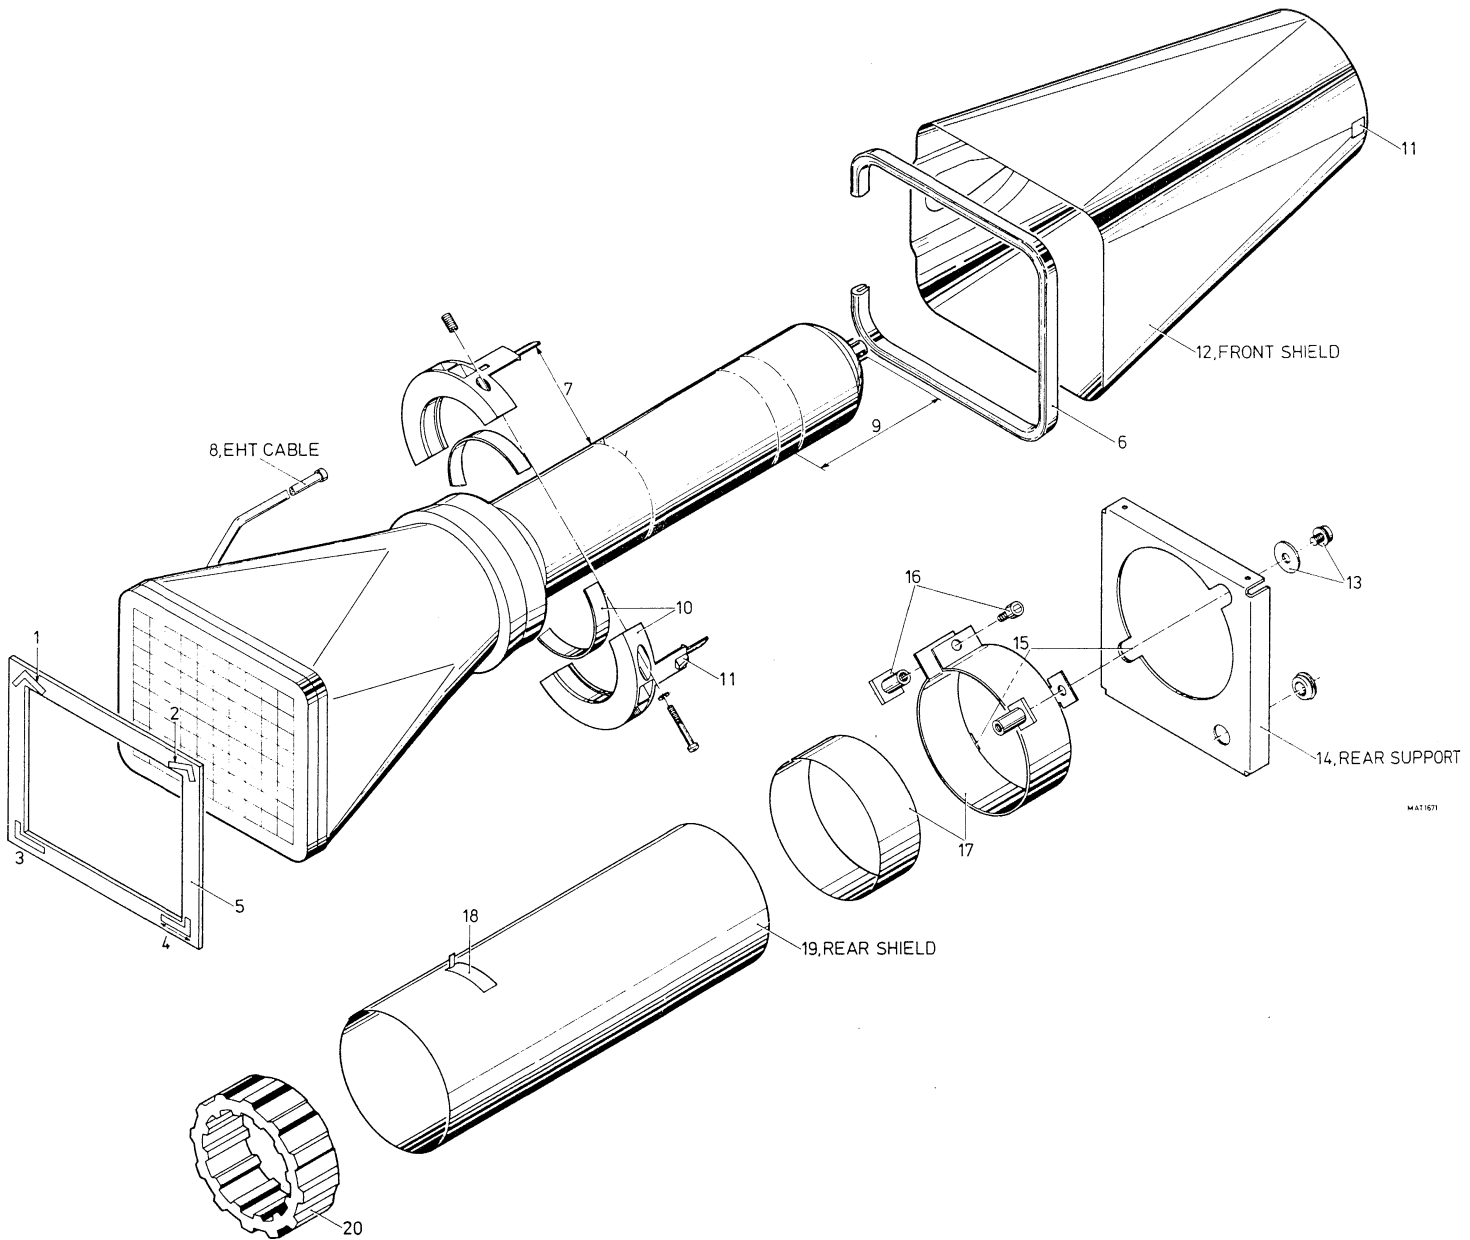

Fig.26.6. Exploded view of CRT and belonging mechanical parts
IMPORTANT: It is strongly recommended to take notice of this chapter and belonging figure 26.6. before starting the job.
- Install the positioning ring (10) so that its positioning tags (7) are at the same level as the side connection pins of the CRT (see fig 26.6.), one tag must be situated between the X and Y pins. The position of the clamping springs must be so, that the front shield (12) fits into them. When doing this, take care of the correct positioning of the EHT-cable (8) and the trace rotation wires and mount the plastic rim (6).
- Put the rubber ring (20) around the CRT. The distance (9) between the ring and the end of the CRT-socket pins must be 7 centimeters (typical value).